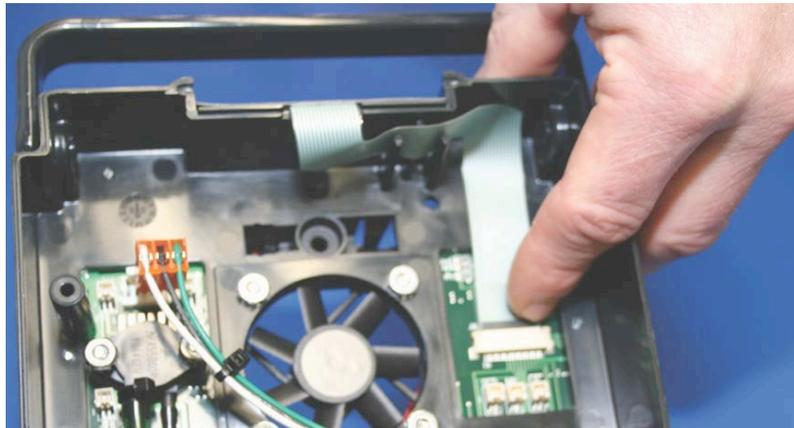

Figure 5.31
6. Disconnect control panel/keypad flex circuit from J8 Ziff (zero insertion force) connector by carefully lifting upward on the locking tab. (Figure 5.31)